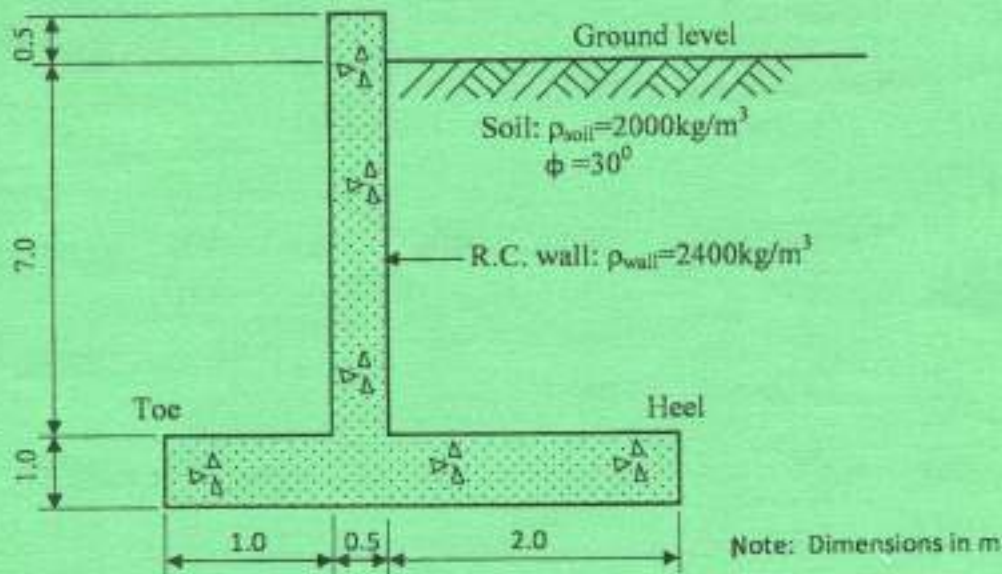

Fig. 2
3. A reinforced concrete retaining wall of density 2400 kg/m^3 supports cohesionless soil of density 2000 kg/m^3 and of angle of shearing resistance (Φ) of 30° as shown in figure 2. Determine: